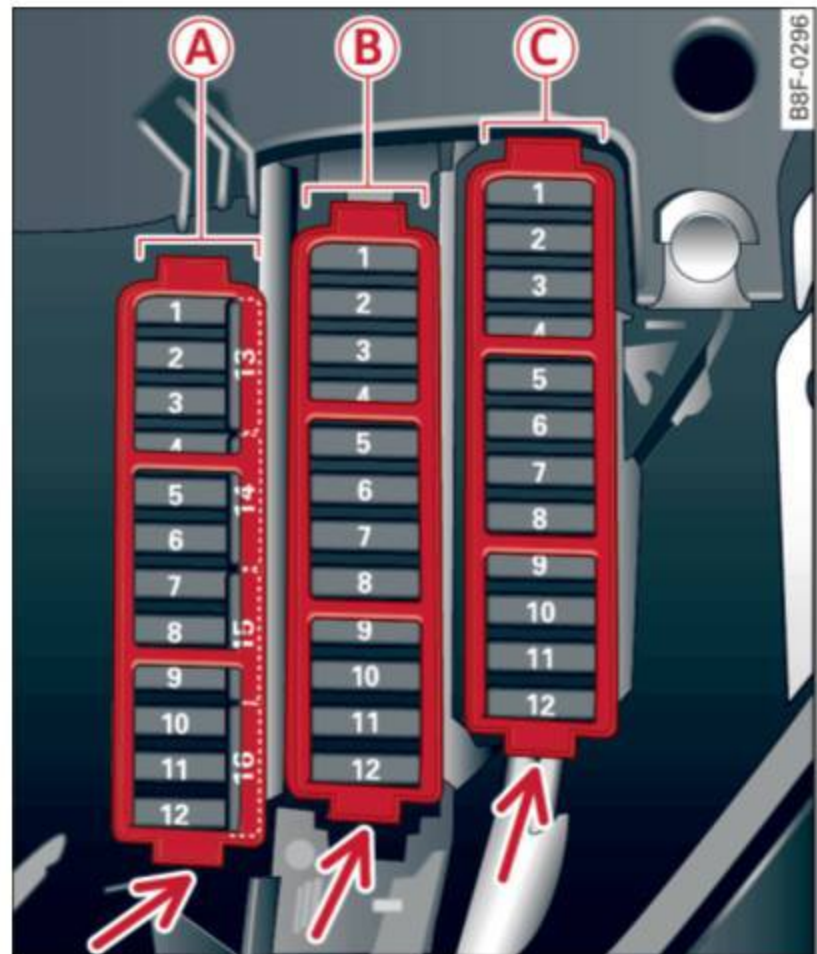

Fig. 192 Left cockpit: fuse panel with plastic clip
- ▶ To remove the purple plastic clip if necessary ¹⁾, hold onto it at the small side and pull it out of the fuse panel ⇒ *page 259, fig. 192*.